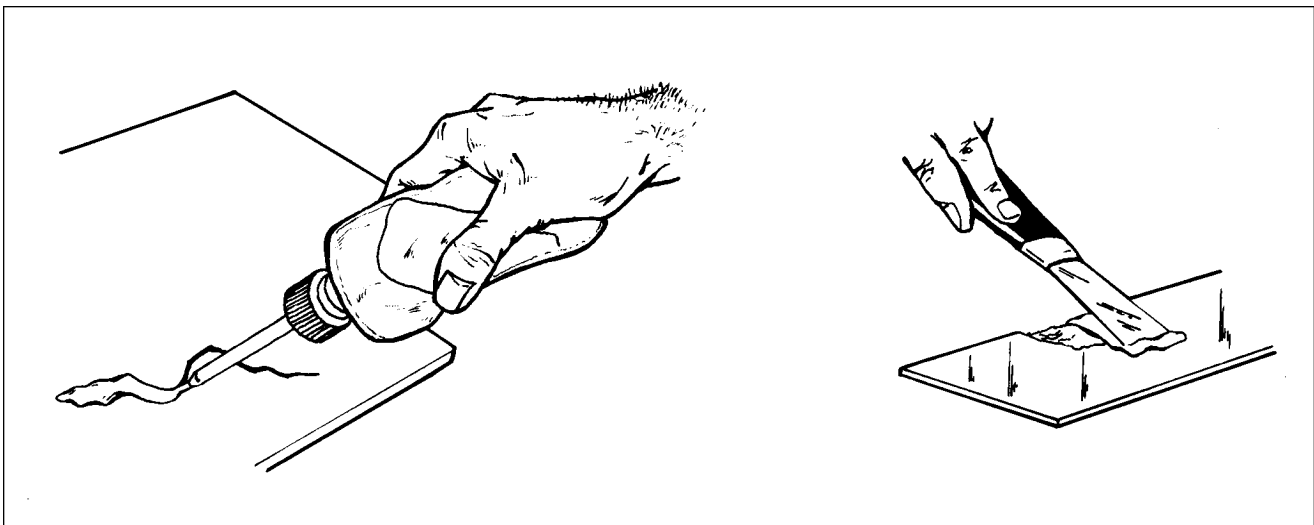

Figure 51-3. Deep Scratches, Shallow Nicks and Small Holes Repair
3. Deep Scratches, Shallow Nicks and Small Holes: (Less than 1 inch in diameter.) (Refer to Figure 51-3.)